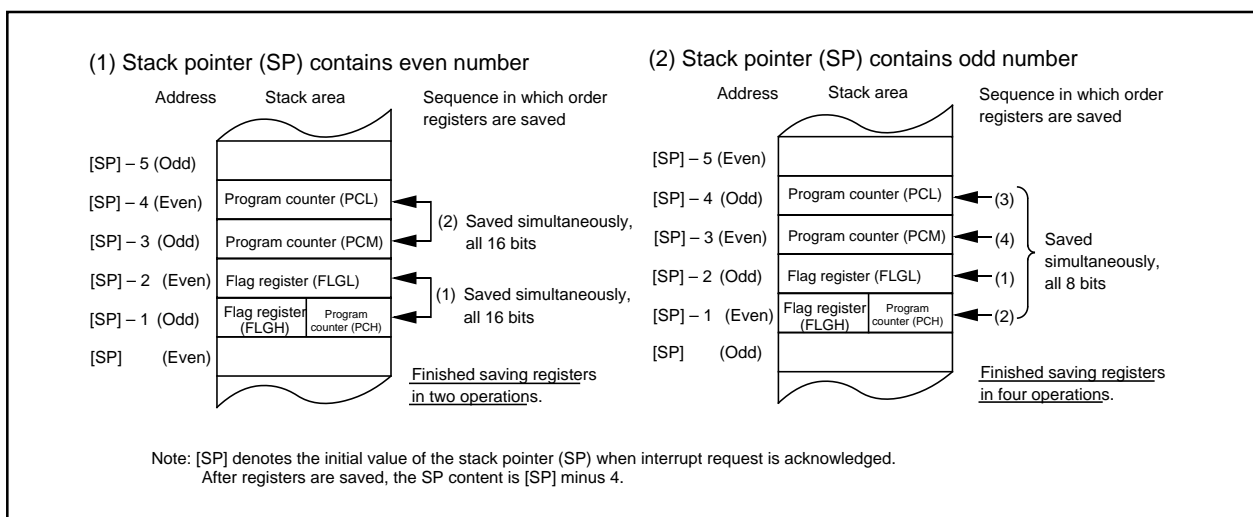

Fig.DD-8 Operation of saving registers
The operation of saving registers carried out in the interrupt sequence is dependent on whether the content of the stack pointer, at the time of acceptance of an interrupt request, is even or odd. If the content of the stack pointer (Note) is even, the content of the flag register (FLG) and the content of the program counter (PC) are saved, 16 bits at a time. If odd, their contents are saved in two steps, 8 bits at a time. Fig.DD-8 shows the operation of the saving registers.